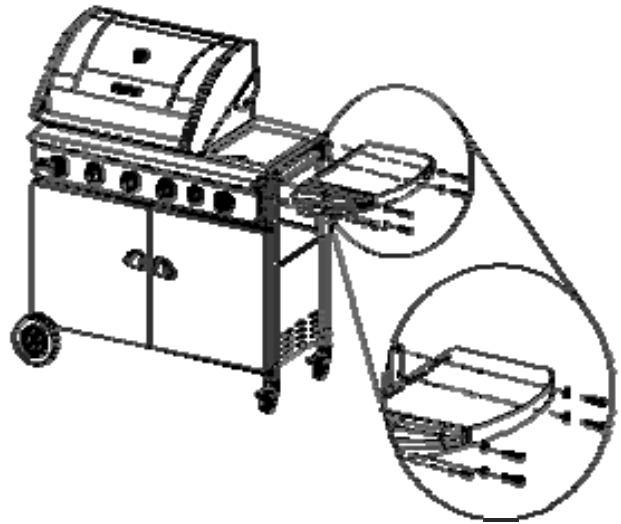

Figure 14
1. Attach right side shelf to cart leg using (4) $\frac{1}{4}$ x $\frac{3}{5}$ " Phillips head screws and (4) $\frac{1}{4}$ " lock washers. (Fig. 14)